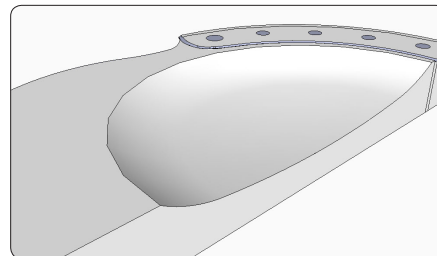

Figure 87. The scooped-out shape.
Step 4 Begin scooping out the seat's top surface by making a semicircular hollow. Place a guide line on the seat's centerline edge to indicate how deep the scooping will go. Place a vertical guide line to show the center of the path for the Follow Me Tool. Draw a semicircular arc on the seat's top edge for the path. Finally, draw an arc on the centerline edge to define the shape of the hollow. The completed layout is shown in Figure 86, and the scooped-out shape is shown in Figure 87.